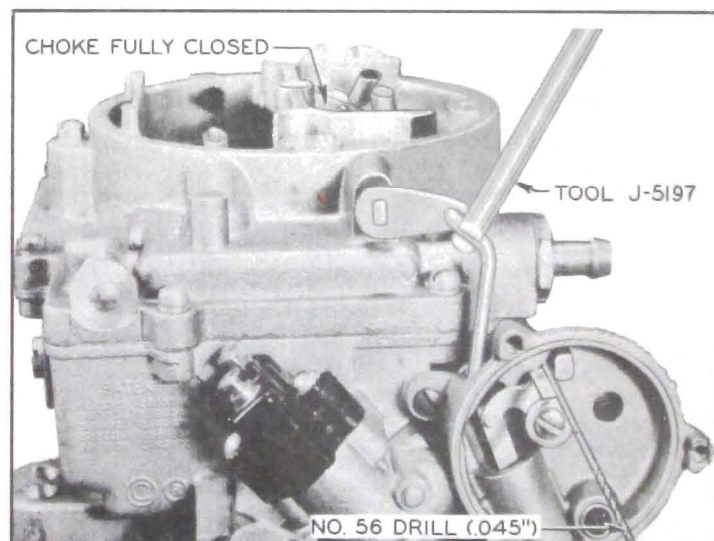

Figure 3-53—Choke Piston Adjustment
18. *Adjust Choke Rod.* With choke valve tightly closed, check clearance between choke piston lever and stop in housing using a No. 56 drill (.045"). To adjust, place Tool J-5197 on upper section of rod and bend as required. See figure 3-53.